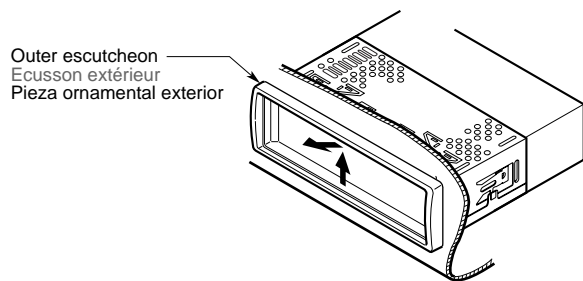

Figure 6 / Figure 6 / Figura 6
- Secure the mounting brackets to the chassis as shown in Figure 6. Holes are pre-tapped for TOYOTA and NISSAN vehicles; modification, such as drilling new holes, of the mounting brackets may be required for other models.
- Press the outer escutcheon upward and remove it. (Figure 6)